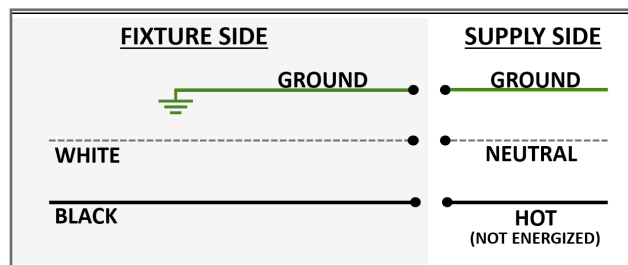

FIGURE 16
5. Route the input wires through the chosen knockout and make electrical connections according to Figure 16.